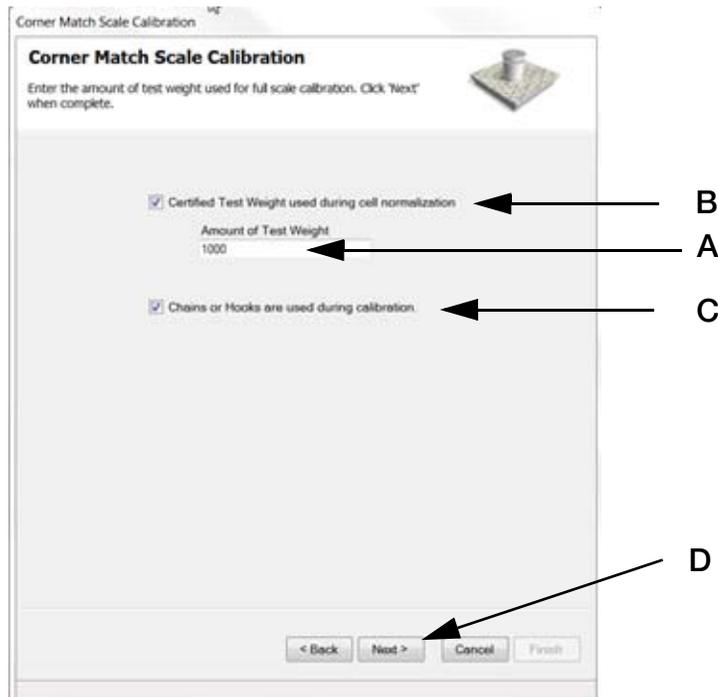

Figure 5-12. Enter Test Weight Value
3. Enter a test weight value (Figure 5-12 A) to be used for normalization and ensure the **Certified Test Weight Used During Cell Normalization** box is checked (Figure 5-12 B). Also select **Chains or Hooks are used during Calibration** (Figure 5-12 C).
4. Press **Next** (Figure 5-12 D).